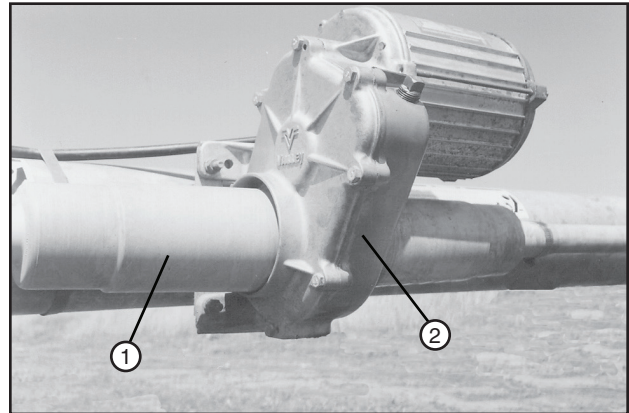

Figure 87-1 1. U-Joint Shield
- Slide the U-joint shield over the U-joint and position approximately 1/4 in away from touching the gearbox. Secure the U-joint shield to the drive shaft shield with a clamp. See figure 87-1.